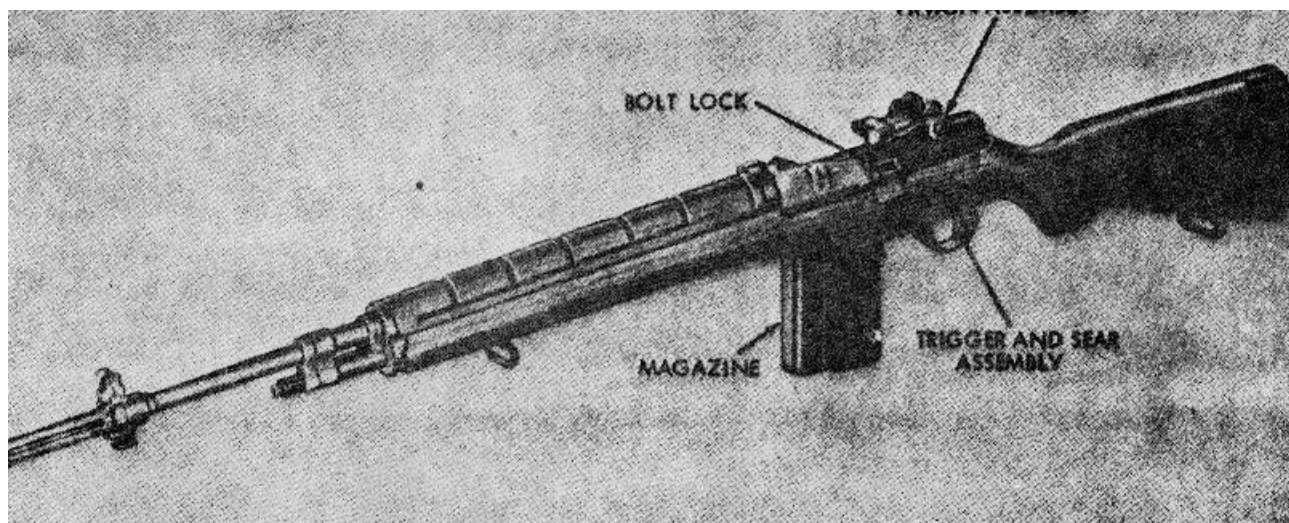

Figure 1-1. 7.62-MM Rifle. M14-left view.
a. The 7.62-MM Rifle, M14 or M14A1, (figs 1-1 through 1-9) is a light-weight air-cooled, gas